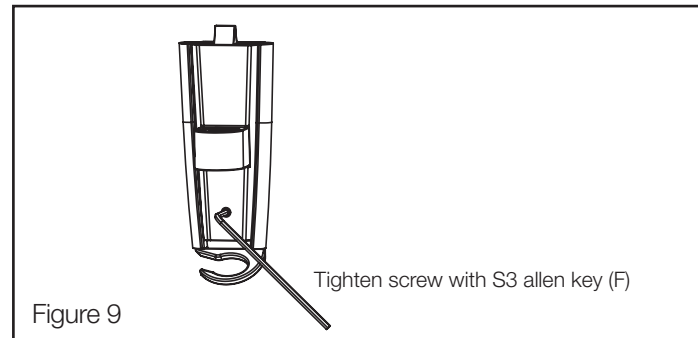

Figure 9
Tighten the screw located on the bottom of the TV Wall Plate using the S3 allen key (F) (see Figure 9).